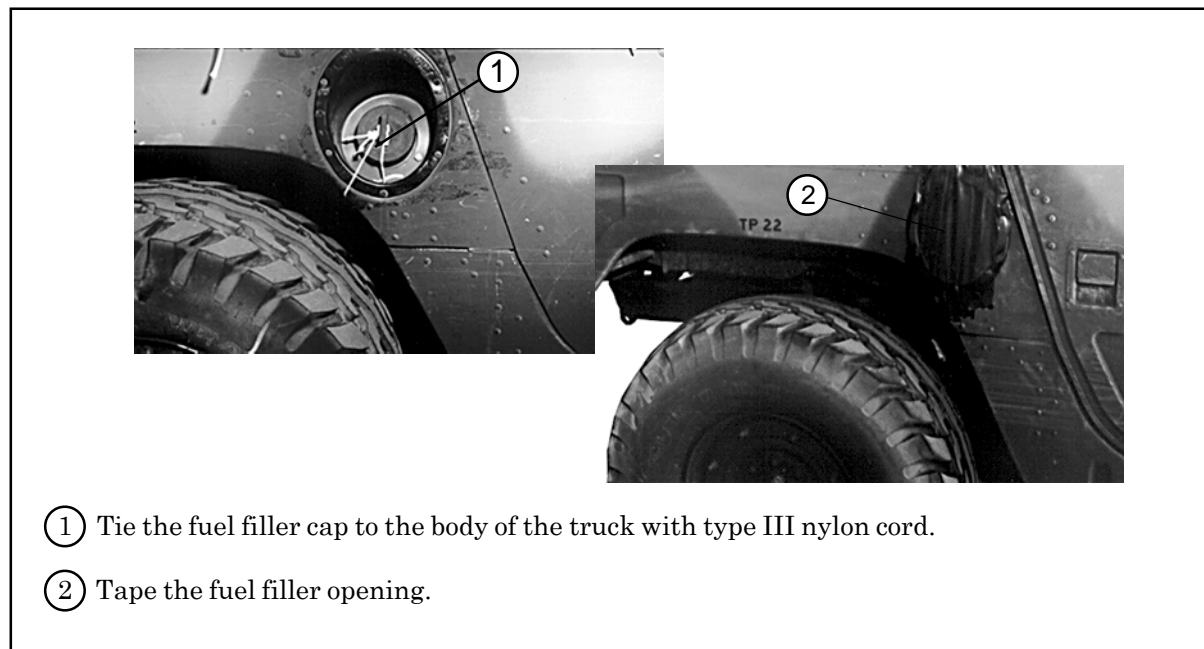

Figure 4-5. Fuel Tank Filler Cap and Opening Prepared
- a. Make sure the fuel tank is no more than 75% full. Prepare the fuel tank filler cap and fuel filler opening as shown in Figure 4-5. Prepare the fuel tank drain plug as shown in Figure 4-6.